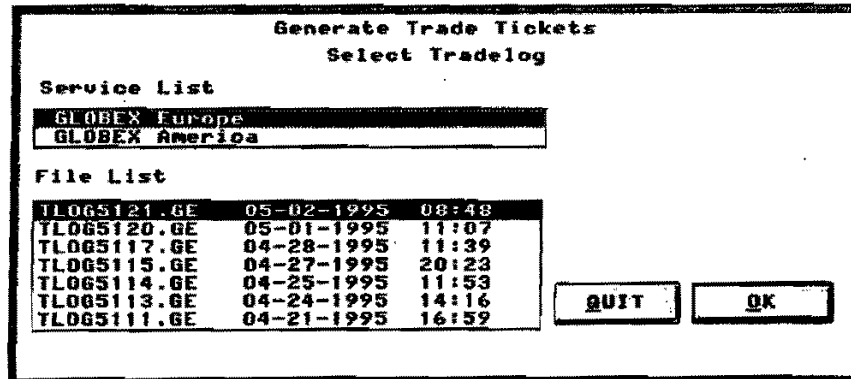

Figure 12.27 Create Trade Tickets Dialog Box
1. Select **Create Trade Tickets** in the Special menu to display the dialog box shown in Figure 12.27. The highest priority Service is selected, as is the most recent of up to seven tradelog files displayed in the list. (Tradelog file-names are explained in Section 12.4.2.)